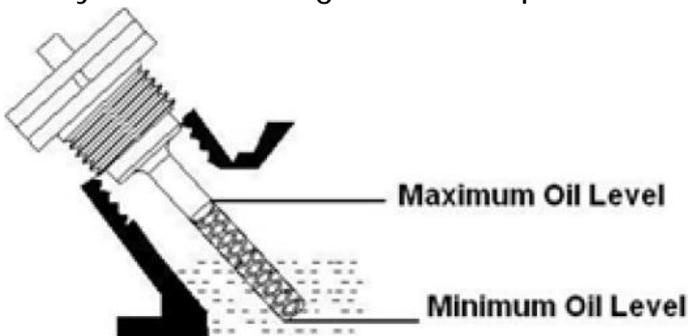

Fig.27 Oil Fill Opening, Dipstick and Oil Level
4. Add oil slowly to bring level to full. (Fig. 27).
6. Slowly add more oil and repeat step 4 until the oil mark reaches to the top of the dipstick (Fig.27). Do not over fill the crankcase. The generator is equipped with a low oil sensor and will not start if the amount of oil is insufficient.